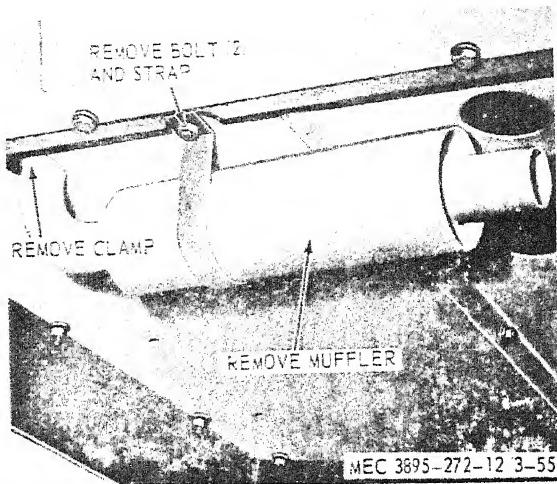

Figure 3-55. Muffler, removal and installation.
a. Removal. Remove the muffler as instructed on figure 3-55.
- (1) Clean all parts with an approved cleaning solvent.
(2) Inspect the muffler for defects and leaks. Replace a defective or leaking muffler.
c. Installation. Install the muffler in reverse of the instructions on figure 3-55.